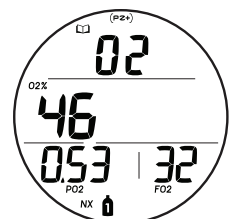

Fig. 45 - LOG DATA 3 (only if NORM Nitrox)
**Log Data 3**, information includes (Fig. 45):